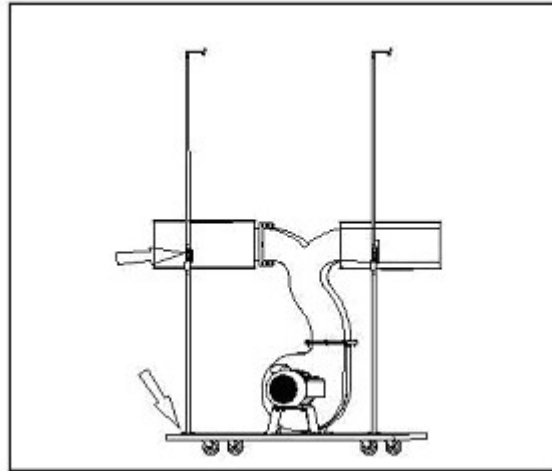

Fig 6
Install the two collector supports (F) and two upper bag support (E) as shown in Fig 6.